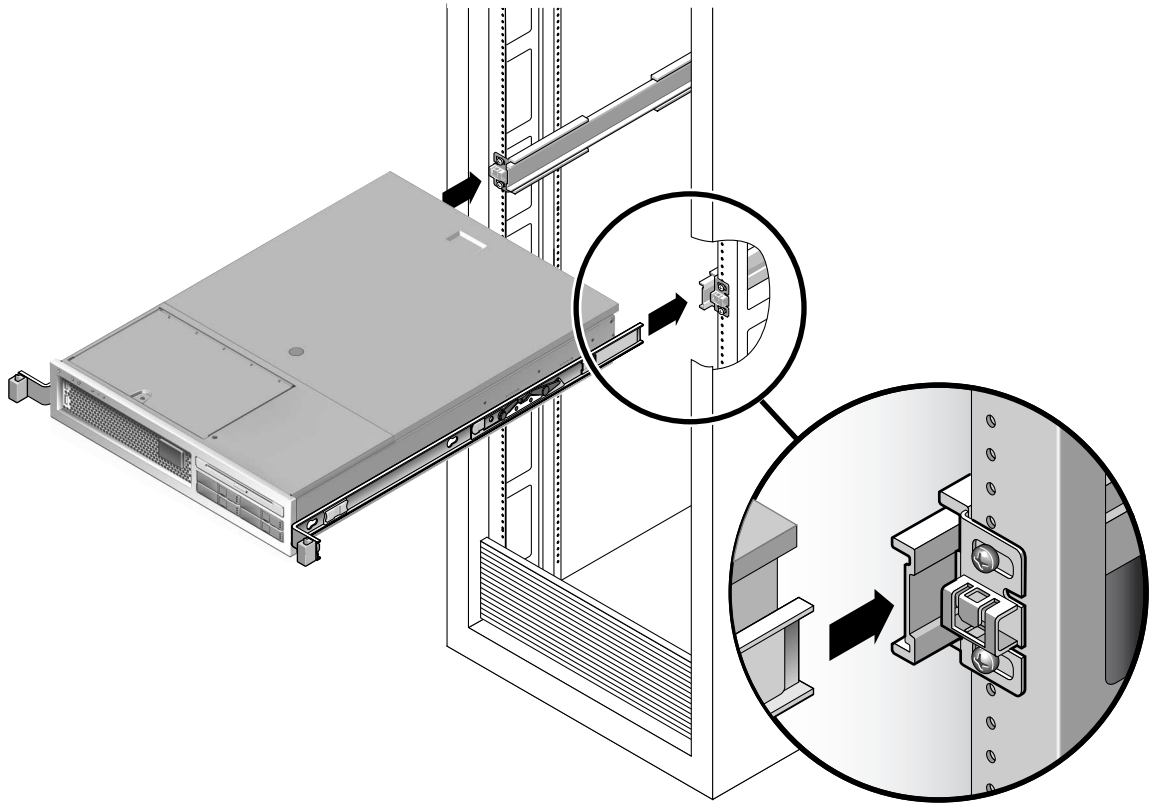

FIGURE 5-30 Returning the Server to the Rack
2. Place the ends of the chassis mounting brackets (inner section) into the slide rails (FIGURE 5-30).